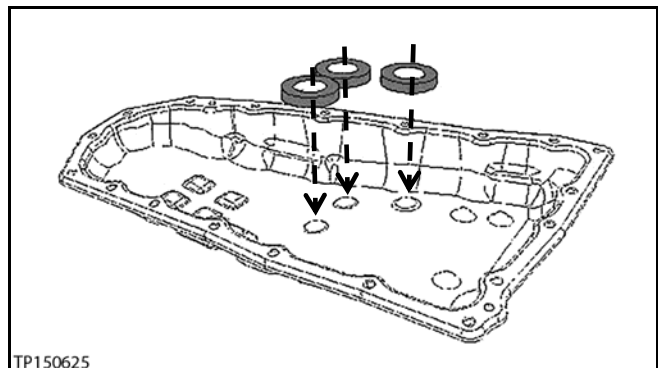

Figure 88
NOTE: Make sure the manual plate fits into the slot of the manual valve before applying torque to the nut (see Figure 88).
9. Install a new oil pan and new pan gasket (see Figure 88).
- Install the three magnets where shown in Figure 88.